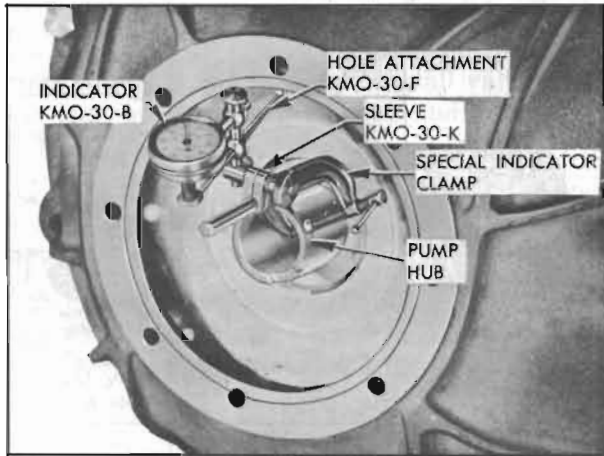

Figure 5-68—Checking Run-Out of Bell Housing Pilot Hole
10. Set up dial indicator as shown in figure 5-68 and bring pilot hole of housing within